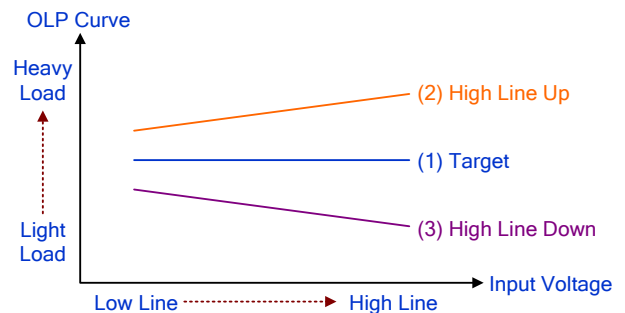

Figure 2. Curve Chart of OLP
In the beginning of propagation delay time compensation function setting, designers could set R_{PD} = 470Ω, and C_{RC} = 100pF. In Figure 2, the ideal output current should be the same as curve (1). No matter under high line or low line, the output current keeps the same. However, the propagation delay time varies OLP curve under different input voltages according to different designs of transformer inductance, parasitic capacitance of MOSFET, series resistance on the GATE of MOSFET. If the OLP curve is like curve (2), designers should increase the resistance of R_{PD}; if the OLP curve is like curve (3), designers should increase the capacitance of C_{RC}. Designers optimize the OLP curve through propagation delay time compensation to keep the same output current under different input voltages.